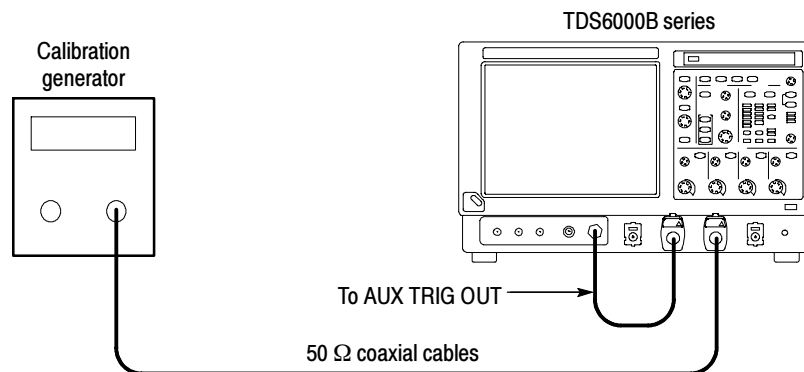

Figure 4-21: Initial test hookup
- Hook up test-signal source 1 (See Figure 4-21):*